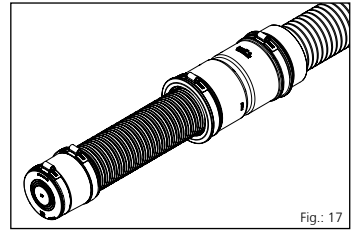

Fig.: 17
- ▶ Completed universal double sleeve KES-M78 on Hateflex hose 14078 and corrugated cable duct DN75 with additional sleeve caps MS78 on the end of the corrugated tube (see Fig.: 17).